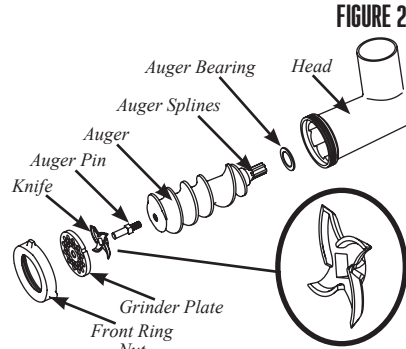

FIGURE 2
3. Insert the Auger, with the Auger Bearing attached (already attached for #22, #32) into the Head (Figure 2). Align the Auger Splines with the Drive Shaft of the Grinder.
4. Place the Knife onto the square part of the Auger Pin (Figure 2). Be sure the blades of the Knife are facing outward.